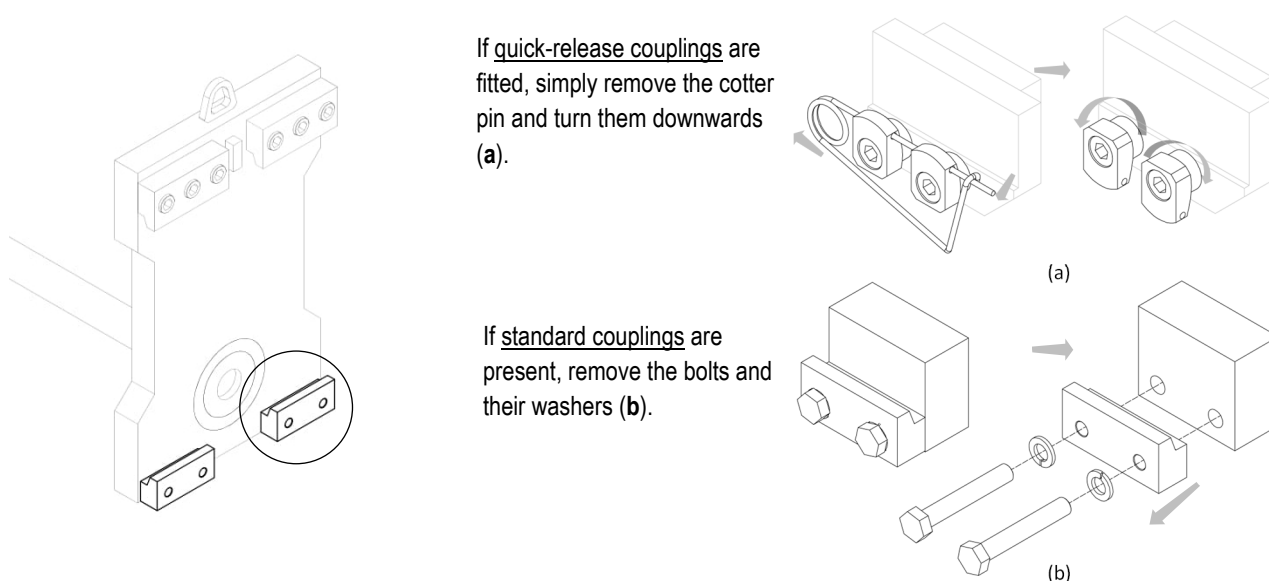

Figure 2
3. Remove the lower couplings from the equipment (see Figure 2).